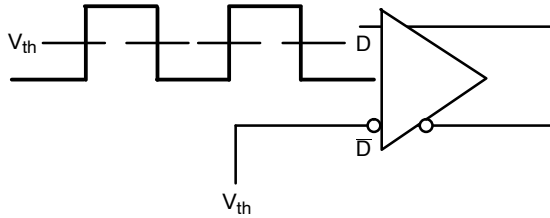

Figure 14. Differential Input Driven Single-Ended
**DIFFERENTIAL INPUT DRIVEN SINGLE-ENDED** (Figures 14, 16) (Note 14)
**DIFFERENTIAL INPUT DRIVEN SINGLE-ENDED** (Figures 14, 16) (Note 21)